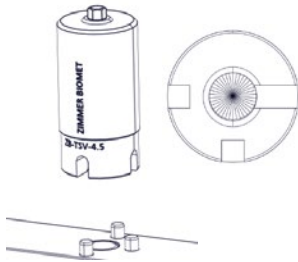

Figure 4.
- × The Pre-milled Abutment Blanks have three notches for orientation. Orient the blank notches to the three pins on the holder (*Figure 4*).